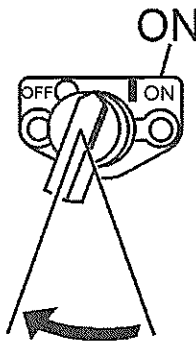

Figure 12. Engine ON/OFF Switch (ON Position)
2. Place the engine **ON/OFF switch** (Figure 12) in the "ON" position.